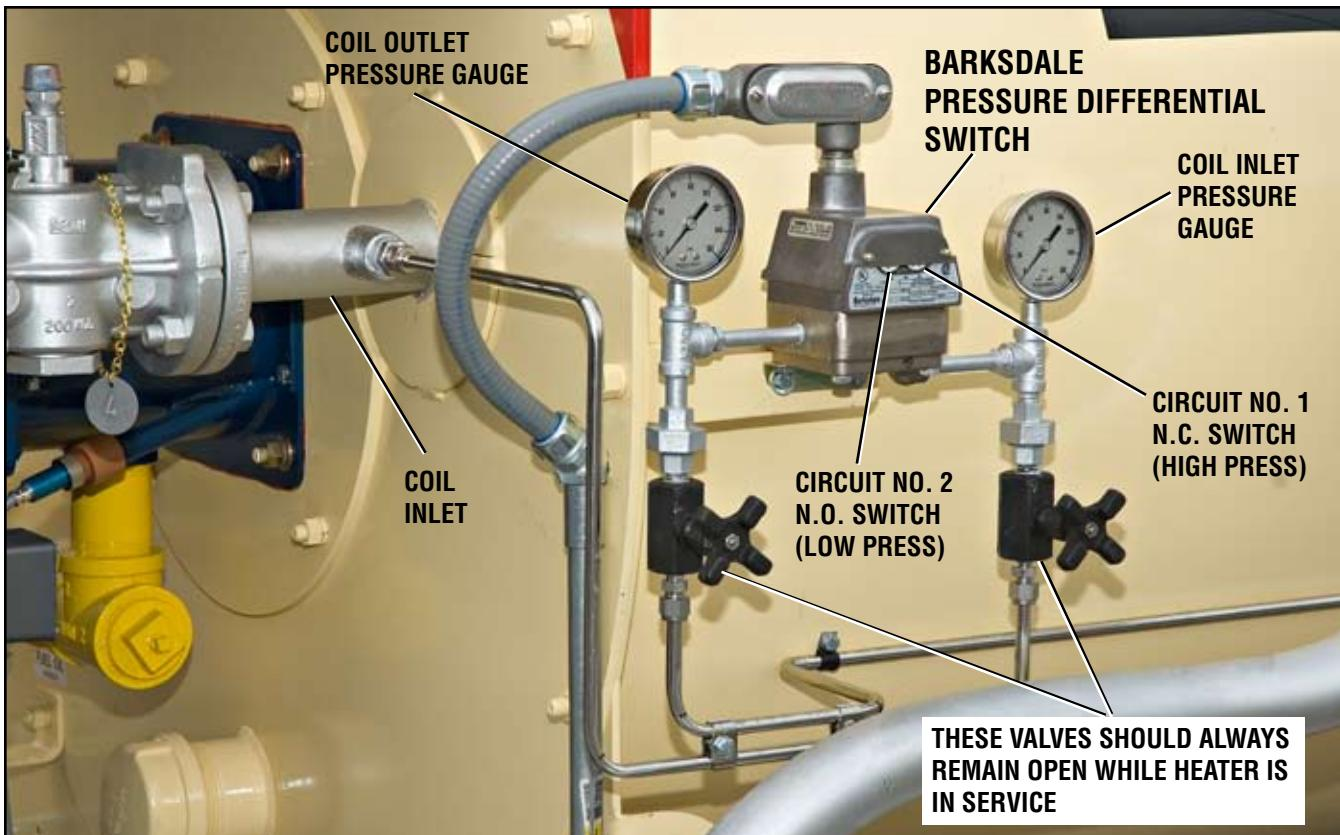

Figure 4. Barksdale pressure differential switch CDPD2H-A80SS
The system should be filled with thermal fluid and purged of air according to instructions in applicable Heatec documents. Bleed the two gauges (Figure 4) to remove air. Make sure the strainer is clean and there are no signs of leaks.
Step 3. Enter on Line 1 of **Figure 5** the value shown on the coil inlet pressure gauge (**Figure 4**). This is the maximum output pressure of the pump. It should indicate the same psi as the coil outlet pressure gauge.
Step 7. Enter on Line 2 of **Figure 5** the value shown on the gauge for the coil *inlet*. (**Figure 4**.)
Step 8. Enter on Line 3 of **Figure 5** the value shown on the gauge for the coil *outlet*. (**Figure 4**.)